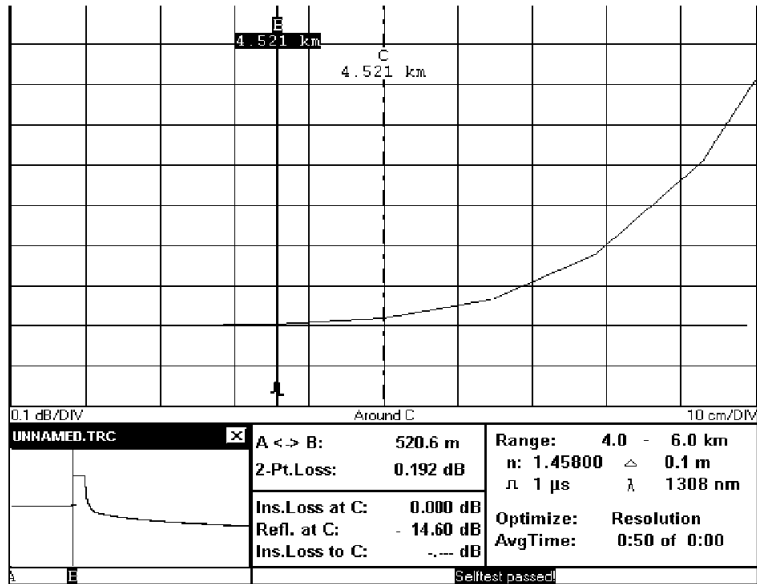

Figure D-12
- 20** View the trace around marker C. Set the y-axis scale to 0.1 dB/DIV and the x-axis scale to 0.1 m/DIV. See Figure D-12.
- 22** Position marker B on the beginning of the reflection, for this test, the last point on the backscatter. See Figure D-12.